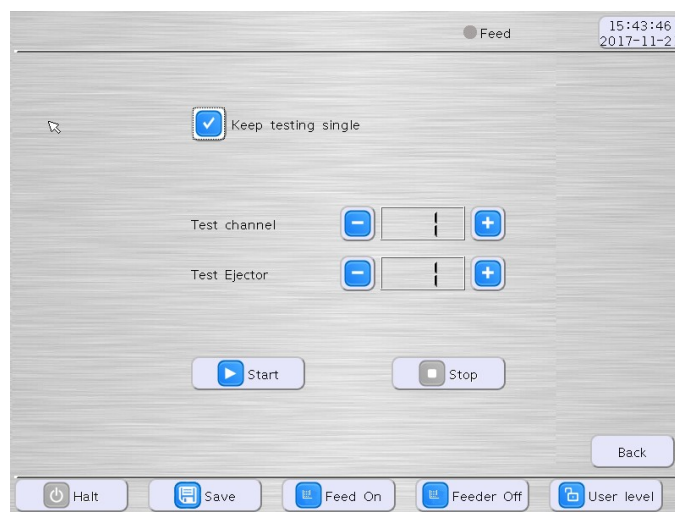

Figure 4-1
- 1) To test the ejectors, start from the main menu as shown in Figure 4-1. Press the “Test Ejector” icon, it will then bring you to the next page as shown in **Error! Reference source not found.**